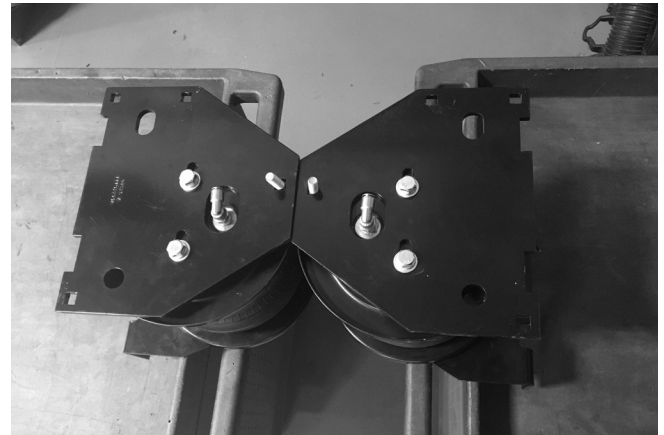

Fig. 16
- Refer to Fig. 16 for the driver's (left) and passenger's (right) side assemblies.